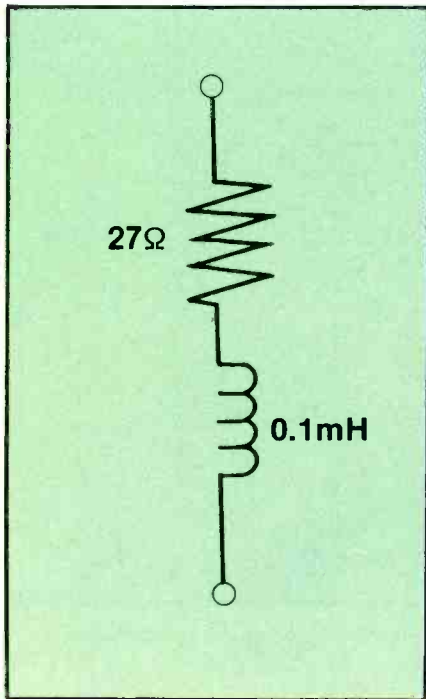

Figure 2. What is the time constant of this circuit?
**Question:** What is the time constant of the L-R circuit in Figure 2?
For the combination in Figure 2,